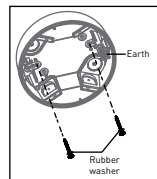

Figure 7
3. Choose proper knockouts to fix the surface mount box on the surface of ceiling with 2pcs screws attached with rubber washer (Fig. 7).